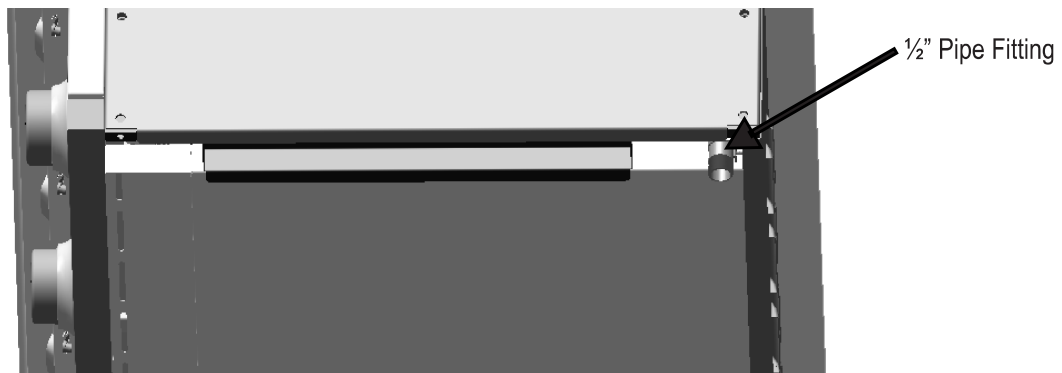

Figure 5
2. Remove the plastic protective cap from the ½" pipe fitting connection found at the bottom of the right rear corner of the grill (see Figure 5).